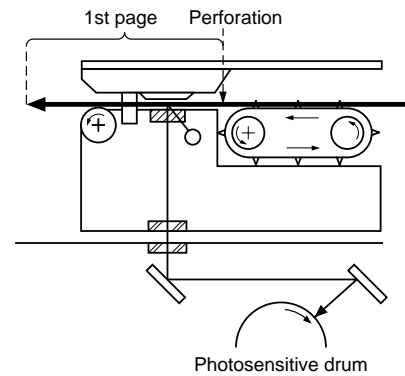

Figure 3-812
- 8 The C.F.F.'s microprocessor sends the image leading edge signal to the copier, which in turn starts copying using the signal. (Figure 3-812)